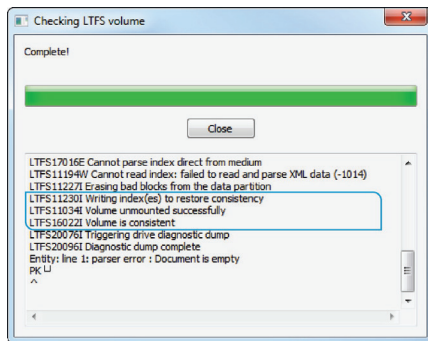

Figure 16. Windows CheckWizard outcome
5. The outcome will be displayed in the progress window; check this to ensure that the recovery was successful. Note that some error messages may be displayed as a result of the issues with the volume, but these can be ignored if the “success” messages are displayed as shown below in Figure 16.